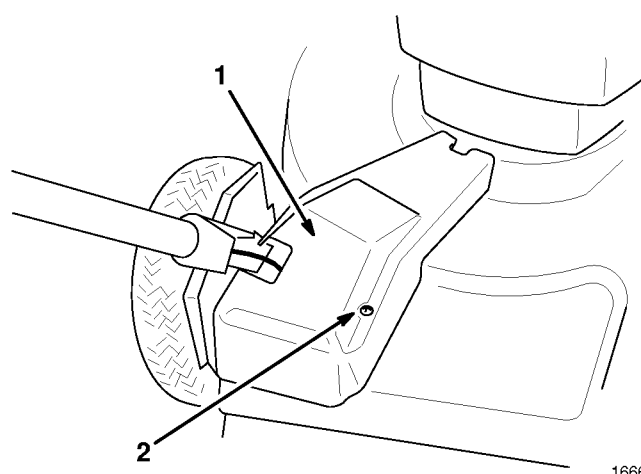

Figure 28
1. With engine turned off, remove bolt securing belt cover (Fig. 28) to mower housing.